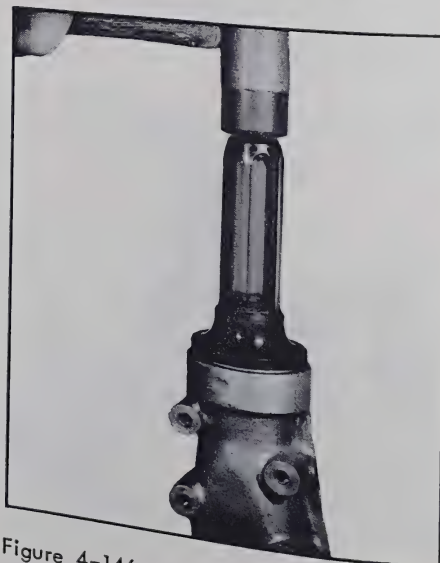

Figure 4-146—Installing Case Extension Oil Seal
18. Install new oil seal in rear bearing retainer, using Seal Installer J-8864. See Figure 4-146. Lightly coat seal with gear lubricant.